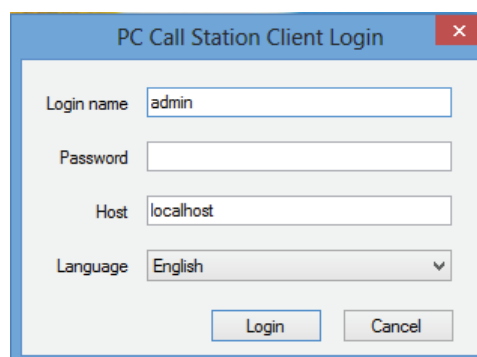

figure 62.1: PC Call Station Client Login
- 2 Click *PC Call Station Client*. A screen similar to the one in figure 62.1 appears.